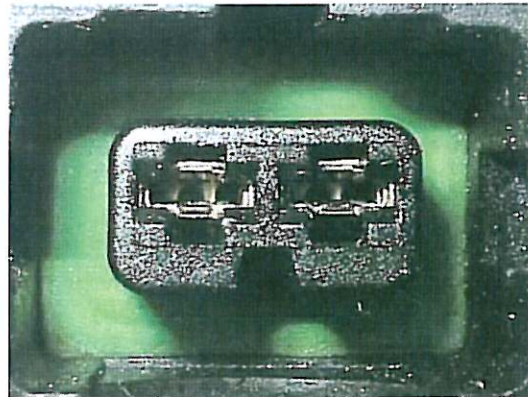
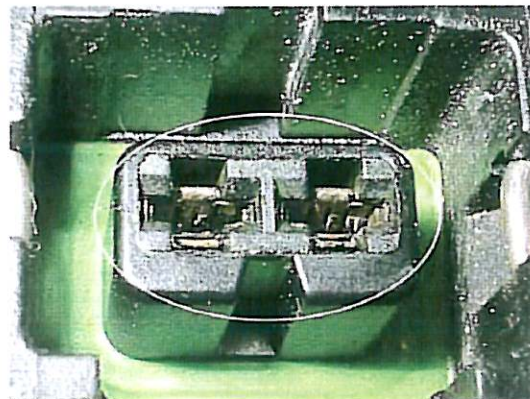
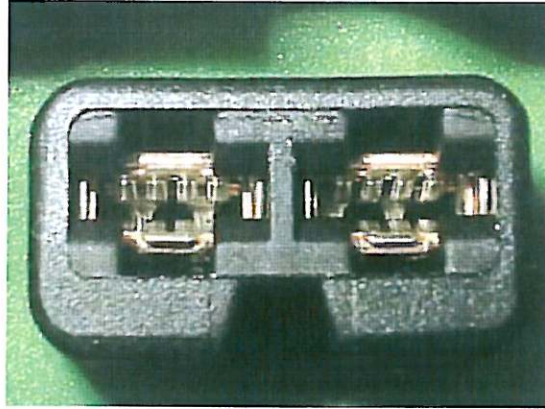

Figure 1 *Crimp contacts worn out
Figure 2 *Crimp contacts burned
Figure 3 Crimp contacts in good condition
2. *Detach the wiring harness plug connection from the plug of the Proportional Pressure Reducing Valve and check the crimp contacts for damages. See Figure 1, Figure 2 and Figure 3.*